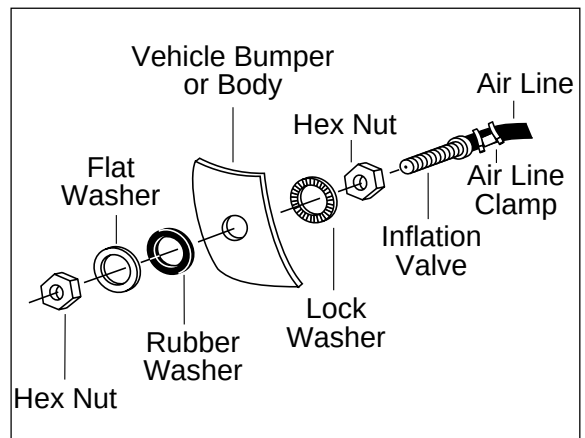

Figure 6
12. Drill a 5/16" hole for inflation valve and mount as in illustration (Figure 6). Rubber washer is for outside weather seal.
8. Drill 5/16" hole for inflating valves and mount as illustrated. Rubber washer is for outside weather seal (Figure 6).